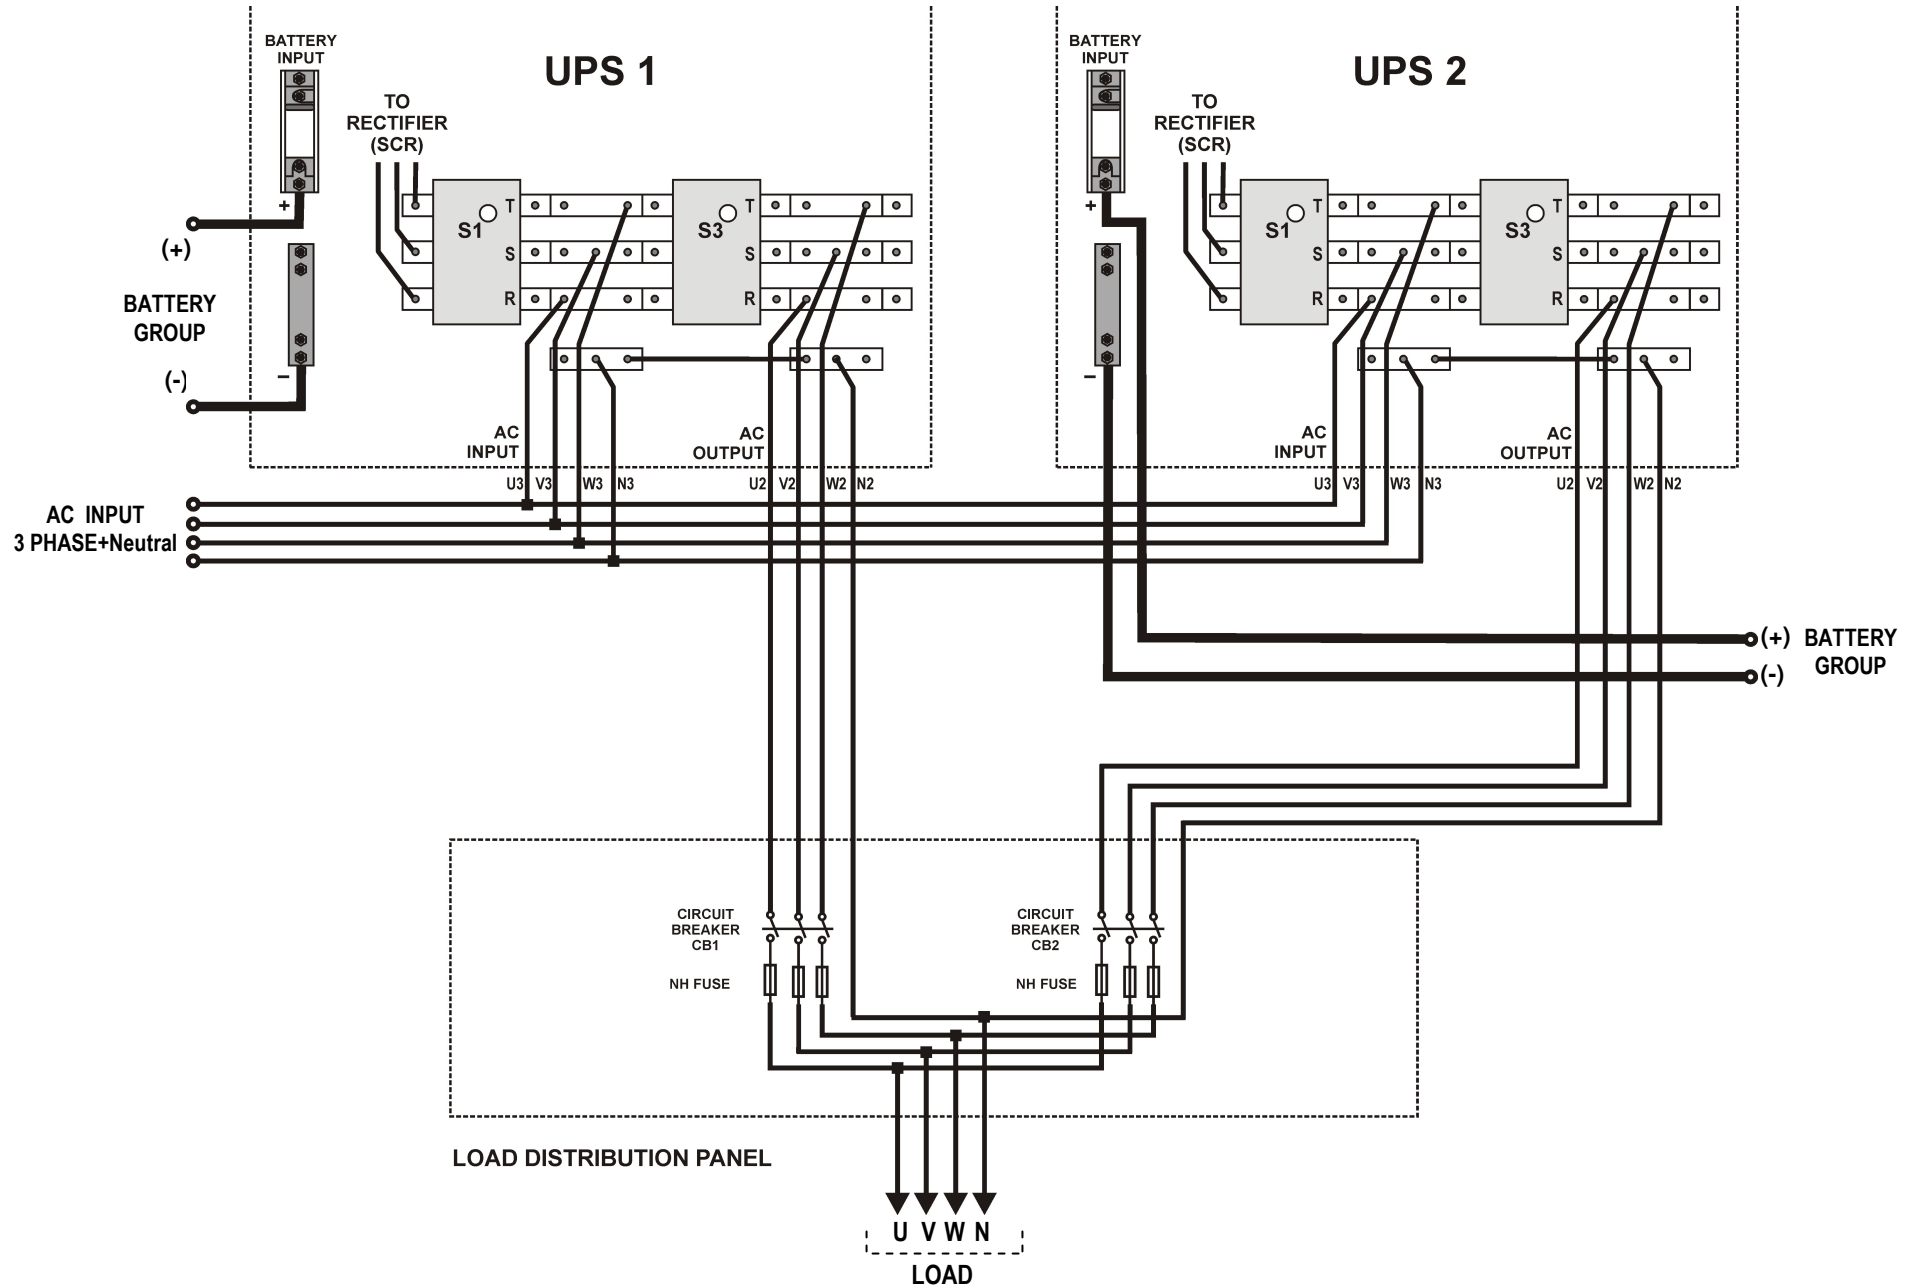

Figure 5-4 POWER CONNECTIONS OF TWO UPS's FOR PARALLEL OPERATION (250kVA)
5. Connect the cable between the battery circuit breaker’s positive port (BAT+) first then battery tray (+) at the left topside as in the figure 5-4
6. Connect the cable between the battery circuit’s negative port (BAT-) first then battery tray (-) at the right bottom side as in the figure 5-4